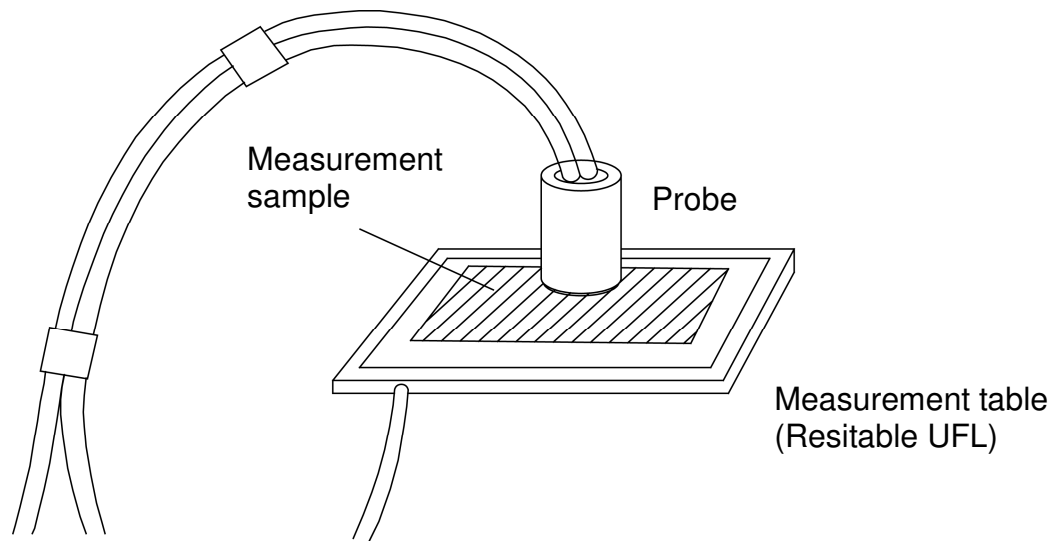

Fig. 5-3. How to Press the Probe
- (3) Press the probe electrode into sample. Press the probe electrode into sample so that the whole surface of the probe outer electrode is pressed evenly into sample. Refer to “Fig. 5-3. Way to Press the Probe”.